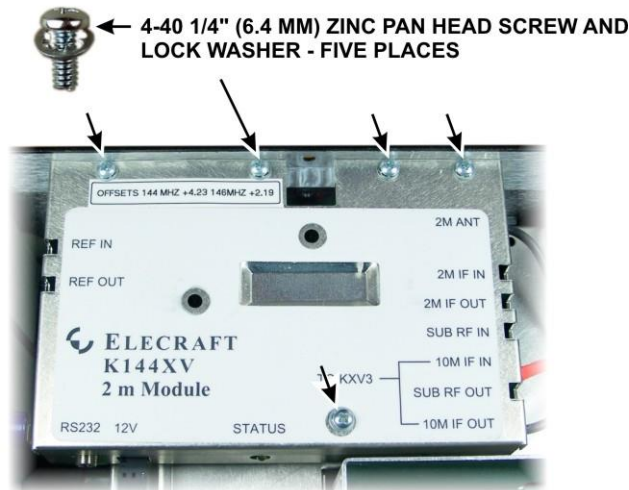

Figure 8. Installing the K144XV Module Top Cover.
□ Install the top cover on the K144XV module. Ensure the lip fits outside the bottom cover on all three sides, then secure the cover with five 4-40 1/4" (6.4mm) zinc pan head screws as shown in Figure 8.